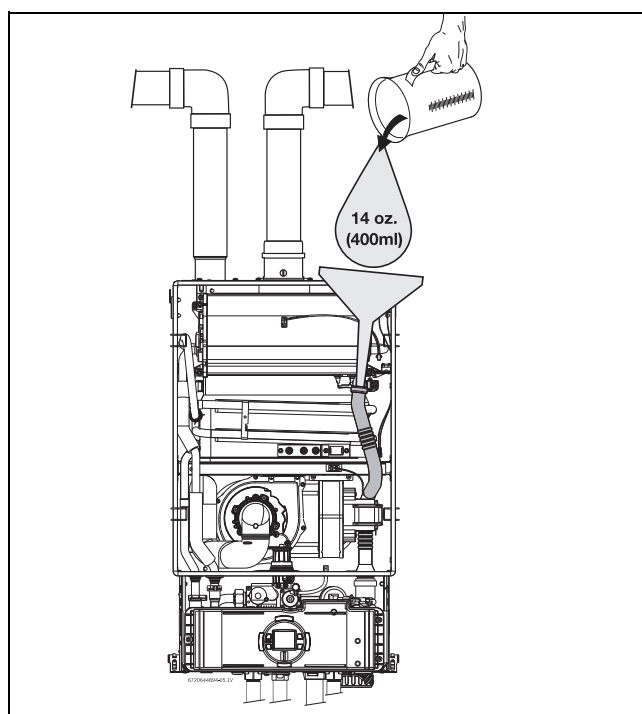

Fig. 40 Filling the condensate trap after installation
- Fill the condensate trap by pouring approx. 14 oz. (400ml) of water into the top of the drain tube. To avoid damage to the appliance use a funnel in this operation, see fig. 40, page 33.